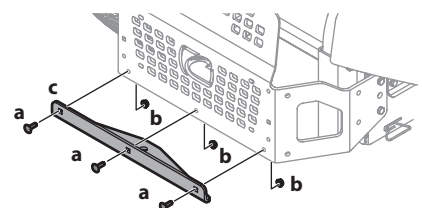

Figure 10
1. Remove the hex flange screws (a) and flange lock nuts (b) that secure the hitch bracket (c) to the bumper bracket. See Figure 10.